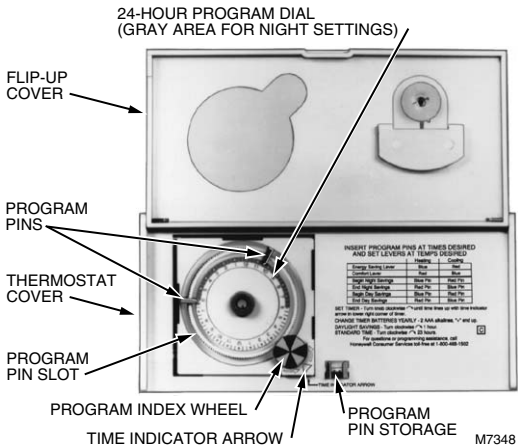

Fig. 4—Program components.
Notice the slots on the program dial (Fig. 4). The dial is slotted for the program pins that can be inserted at 10-minute intervals.
- Lift thermostat flip-up cover and you will find the 24-hour program dial. The slots on the program dial (Fig. 4) are for the program pins that can be inserted at 10-minute intervals.